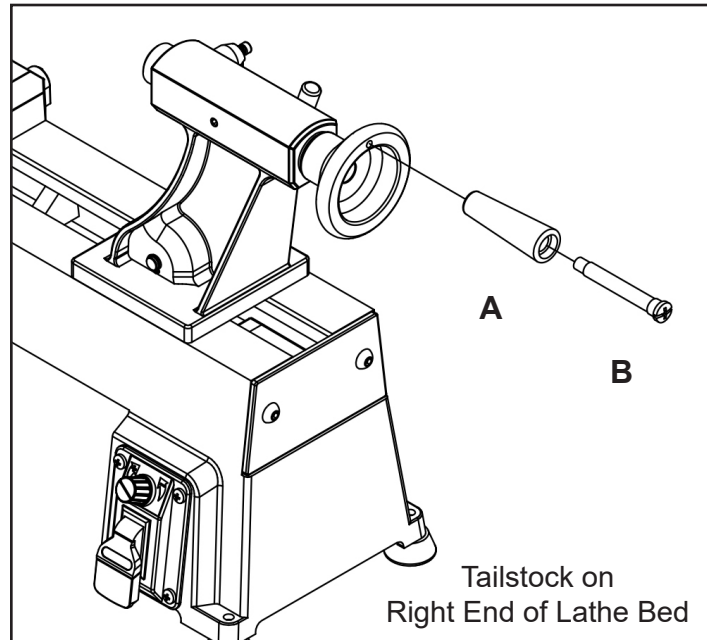

FIG. 1
1. With a slotted screwdriver (not supplied) attach the tailstock Handle (A) to the hand wheel with the Screw provided (B). FIG. 1.